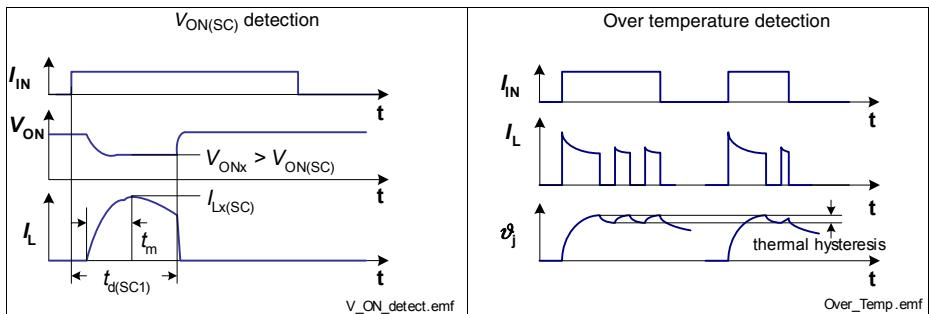

Figure 12 Overload Behavior
In the event that either the short circuit detection via $V_{ON(SC)}$ is not activated or that the on chip temperature sensor senses over-temperature before the blanking time $t_{d(SC1)}$ expired, the device switches off resulting from over-temperature detection. After cooling down with thermal hysteresis, the device switches on again. Please refer to Figure 12 for details.
2) Short circuit current limit for max. duration of $t_d(\text{SC1})$, prior to shutdown, see also Figure 12.